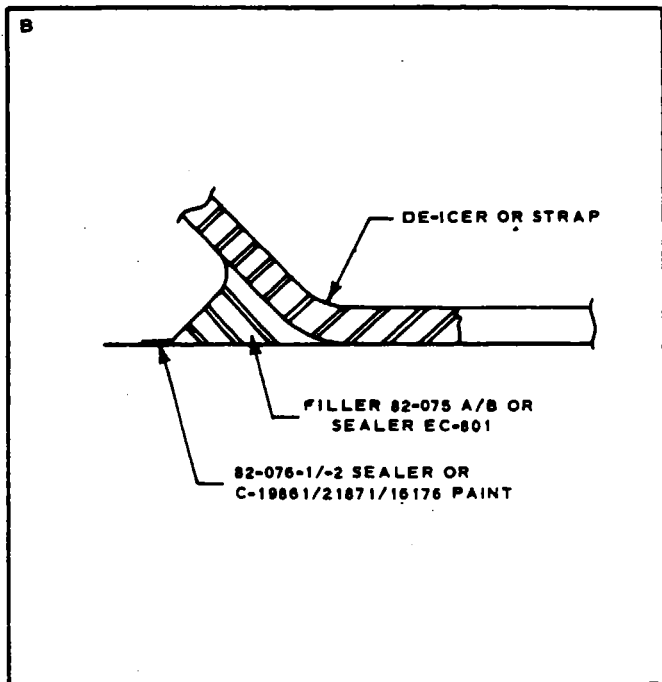

Figure 14-14. Sealer Application (Lead Strap)
f. Insure that a fillet of filler completely covers the area between deicer strap and blade. (See Figure 14-14.) Immediately remove masking tape and allow filler to dry for six hours.
h. Insure that sealer completely covers area between deicer strap and blade. (See Figure 14-14.) Immediately remove masking tape and allow sealer to dry for 24 hours before starting engine.